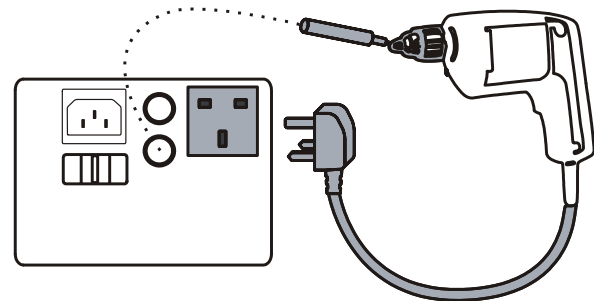

Figure 6. Substitute Leakage Current Connections
- 1**  Connect the appliance and the probe as indicated on the tester, see also Figure 6.